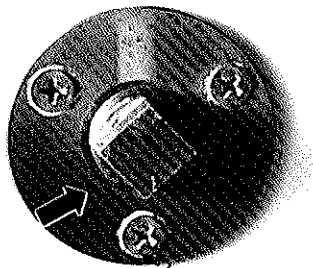

Figure 23
1. Remove the hull drain plug. The plug is in the outside of the transom below the gimbal. See figure 23.